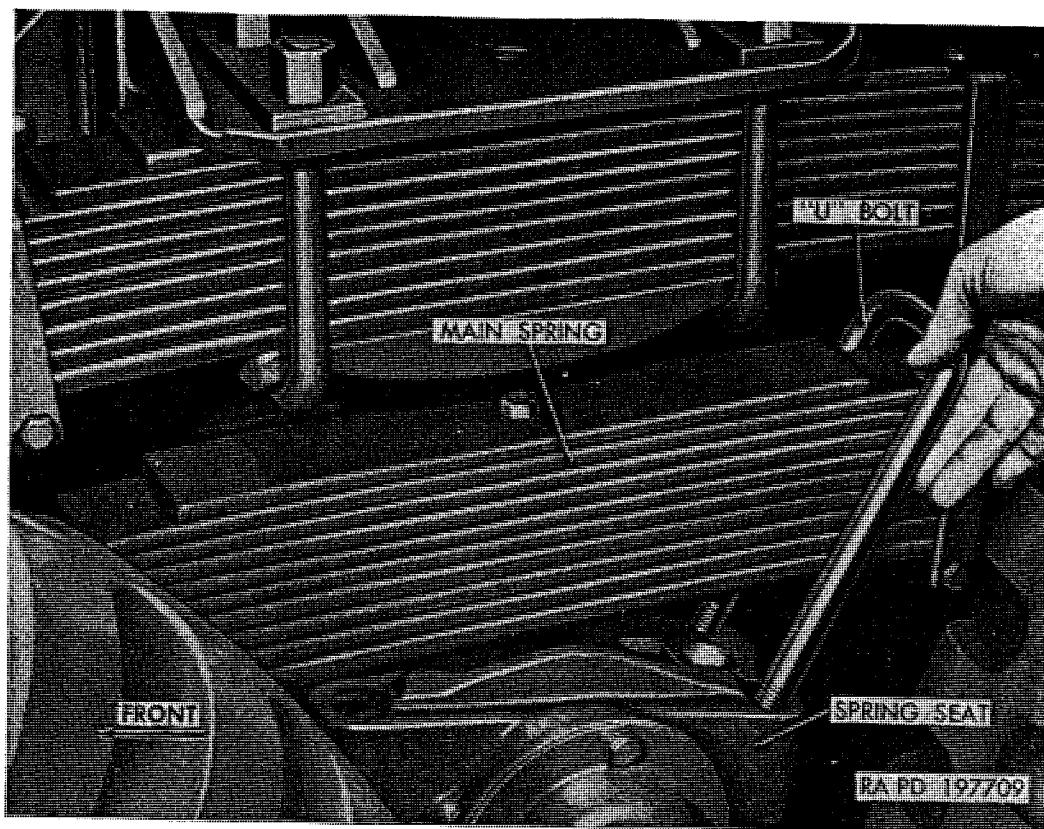

Figure 291. Removing or installing main spring U-bolts.
- (4) Remove jack from under frame bracket assembly. This allows spring seat assembly to tilt forward and backward, so that the U-bolts can be removed from spring seat. Remove U-bolts (fig. 291).